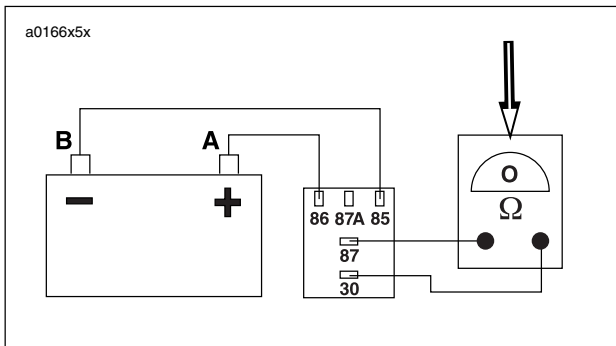

Figure 5-7. Starter Relay Test with Ohmmeter
3. See Figure 5-7. Obtain a 12 volt battery and a continuity tester or ohmmeter.